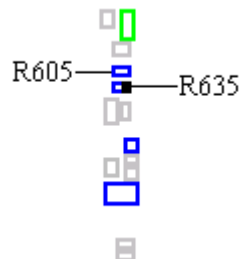
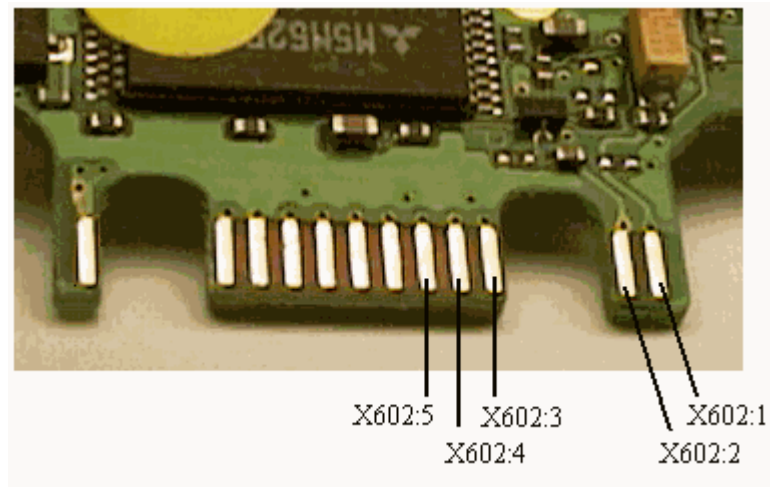

Fig. 4.5
Fig. 4.6
Make especially sure there's no dirt or oxide between the components below the dome switches (fig. 4.5) and at the system connector pads.
Measure the voltage at both sides of R605 and at D600 pin 67 (~5V, fig. 4.5 and 4.2, you follow the **EXTAUDI** signal).
- * If there's no voltage there, check the resistance from the marked side of R635 or R636 to N705 pin 3 (~0 ohms, fig. 4.5/4.4, 4.2).
Measure the resistance from X602 pad 5 to ground (>100 kohms, fig. 4.6). Make sure there's no dirt or oxide between the components below the dome switches (the components in fig. 4.5).
- * If the resistance still is too low, remove R605 (class A, fig. 4.5) and measure again.
If all of the above measured resistances are correct but anyone of the voltages at R601 or R605 are too low anyway, it usually is because of a short circuit caused by dirt between the components in fig. 4.5.
Open the phone and check for liquid damages, especially around the system connector pads (X602) 1, 2 and 4 (fig. 4.6).
Open the phone and check for liquid damages, especially around the system connector pads (X602, fig. 4.6) 1, 2 and 4.
Open the phone and check for liquid damages, especially at the components in fig. 4.5.
Measure the resistance from X602 pad 3 to the unmarked side of R635 (~0 ohms, fig. 4.6 and 4.5).
Measure the resistance from X602 pad 2 to the unmarked side of R636 (~0 ohms, fig. 4.6 and 4.4).